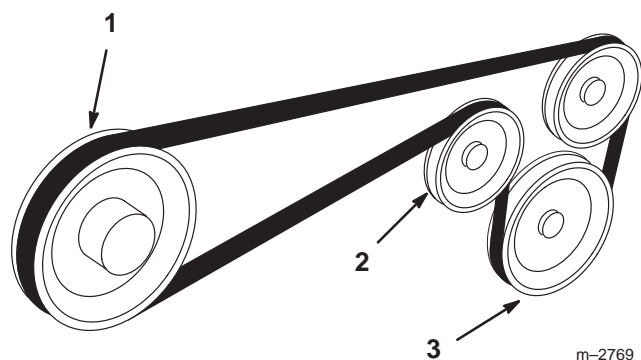

Figure 40
6. Remove rear idler and replace belt (Fig. 40).